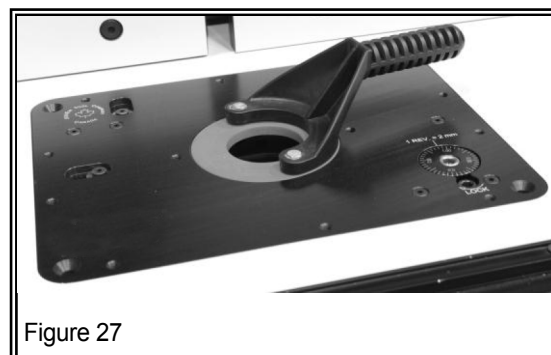

Figure 27
1. Position the insert ring over the center opening on the lift's top plate (Figure 27).